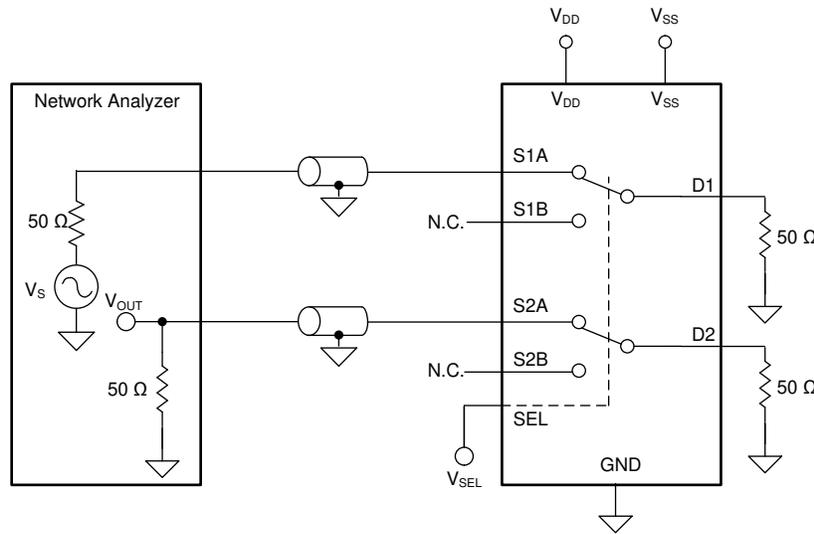

图 7-9. Inter-Channel Crosstalk Measurement Setup
2. Inter-channel crosstalk: the voltage at the source pin (Sx) of an on-switch input, when a 1-VRMS signal is applied at the source pin of an on-switch input in a different channel, as shown in 图 7-9.